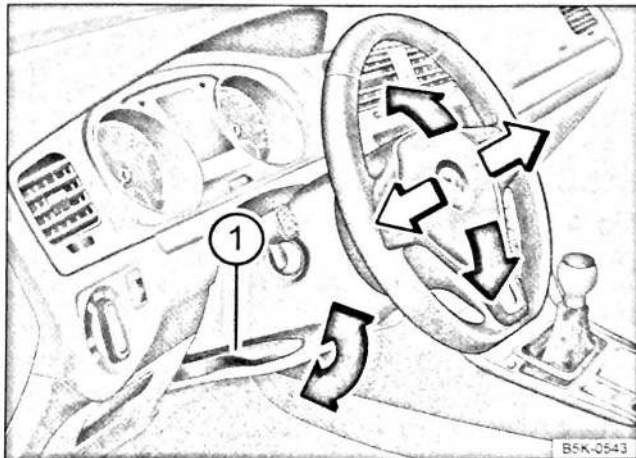

Fig. 50 Adjusting the steering wheel position mechanically
- Push down the lever ⇒ Fig. 50 ①.